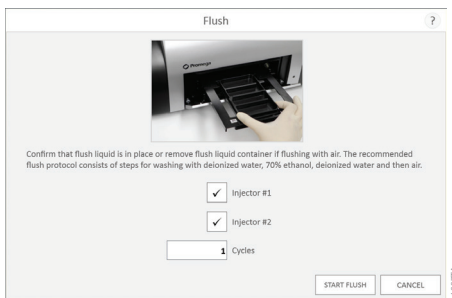

Figure 118. Injector Flush function.
4. Tap the **Start Flush** button (Figure 118).